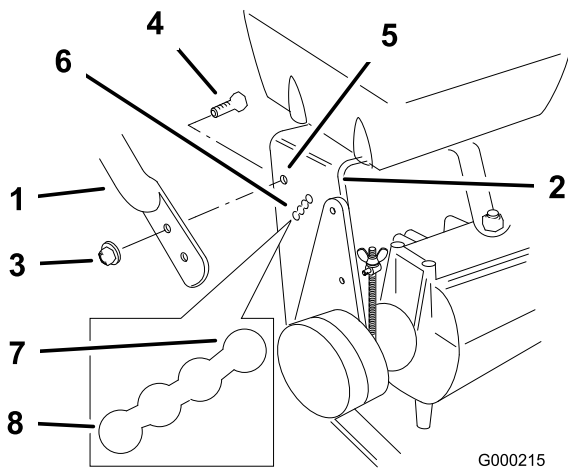

Figure 18
- Loosen the upper flange bolts (3/8 x 1 inch) and the flange nut securing the handle to the rear frame (Figure 18).
3. Remove the lower flange bolts (3/8 x 1 inch) and flange nuts securing the handle to the rear frame (Figure 18).